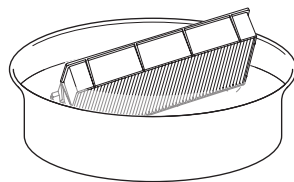

Fig. 1
- 2) Remove the air filter cover (Fig. 1).
**1) Wash the air filter unit. (Fig. 1)**